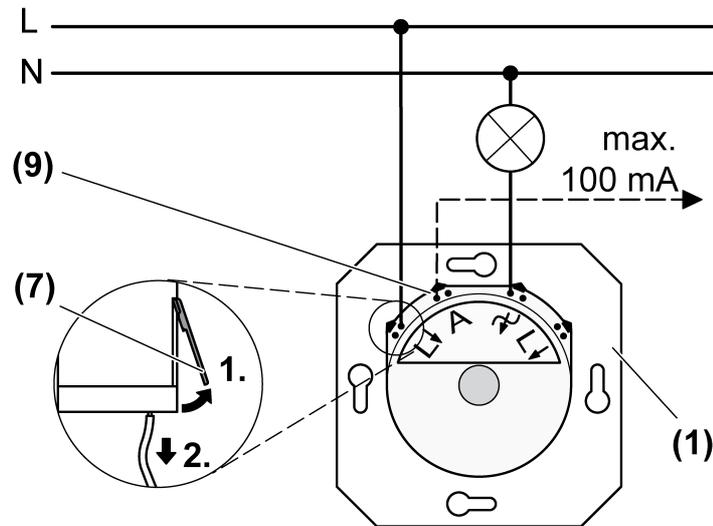
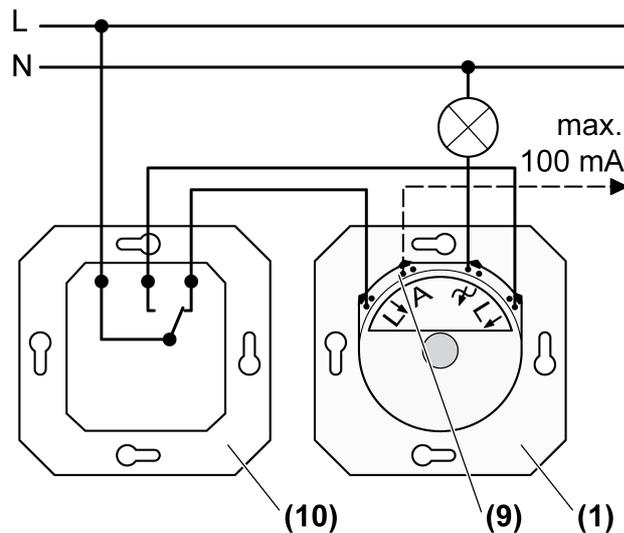

Figure 2: Connection diagram
Figure 3: Changeover circuit
- Control output **A** (9) (Figure 2) to output the switching state of the device for automatic power disconnection or relay
- Connect the dimmer (1) according to the connection diagram (Figure 2). Alternatively, install with a changeover switch (10) (Figure 3).
- i** Pull the connecting cable out of the screwless terminal (7).